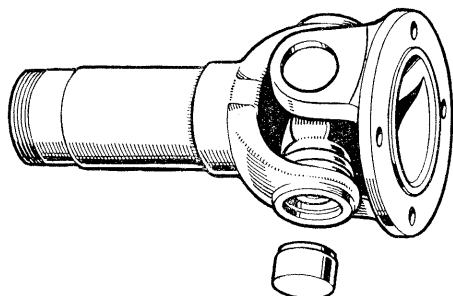

Fig. D-3—Removing a yoke bearing. Stage 2
6. Turn the joint over and withdraw the bearing. (Fig. D-3.)